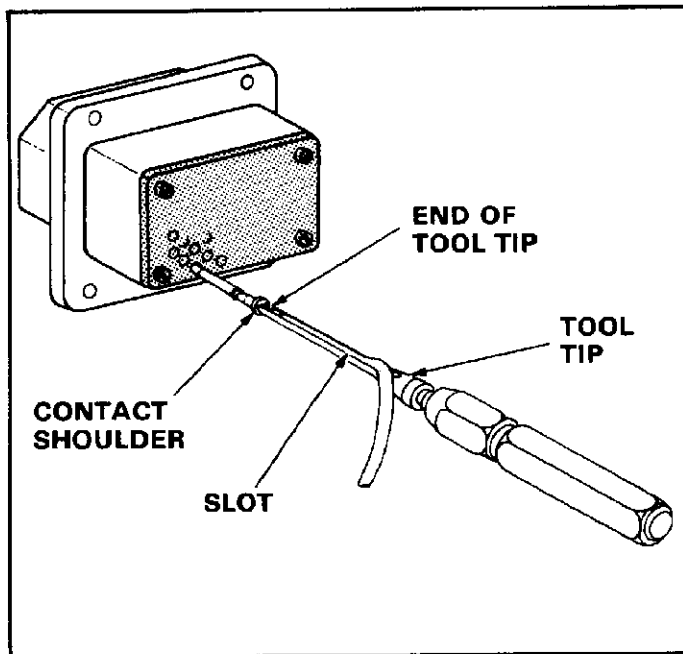

Fig. 6
**5. CONTACT INSERTION (Figure 6)**
1. Place the contact into the tool tip so that the shoulder of the contact butts against the end of the tip as shown in Figure 6.